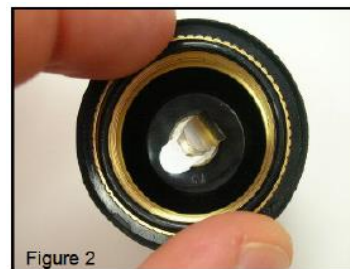

Figure 2
3. Pre-Installation (Figure 2):